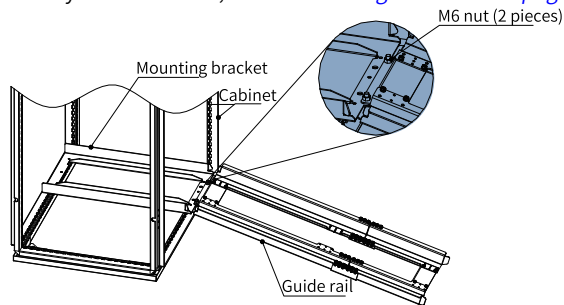

Figure 1-13 Mounting the guide rail assembly to the cabinet
- b. Align the two round holes on the front end of the guide rail assembly with the screws of the mounting bracket, and lock them with two M6 nuts to mount the guide rail assembly to the cabinet, as shown in "Figure 1-13 " on page 21 .